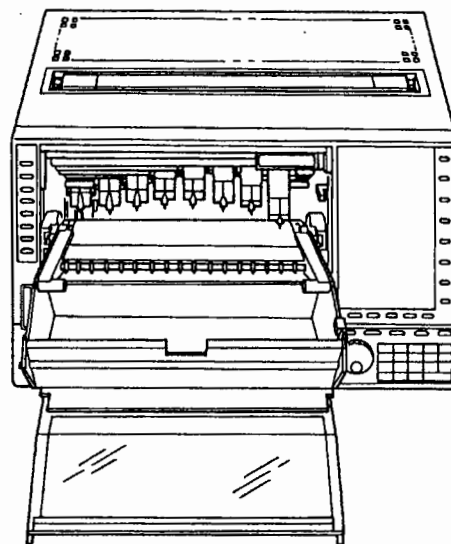

Fig 6.3
- (2) Pull the tray toward you to remove it from the recorder. (Fig. 6.3)
- (3) Move the printer carriage to the extreme left, and all pens on the pen carriages to the extreme right.